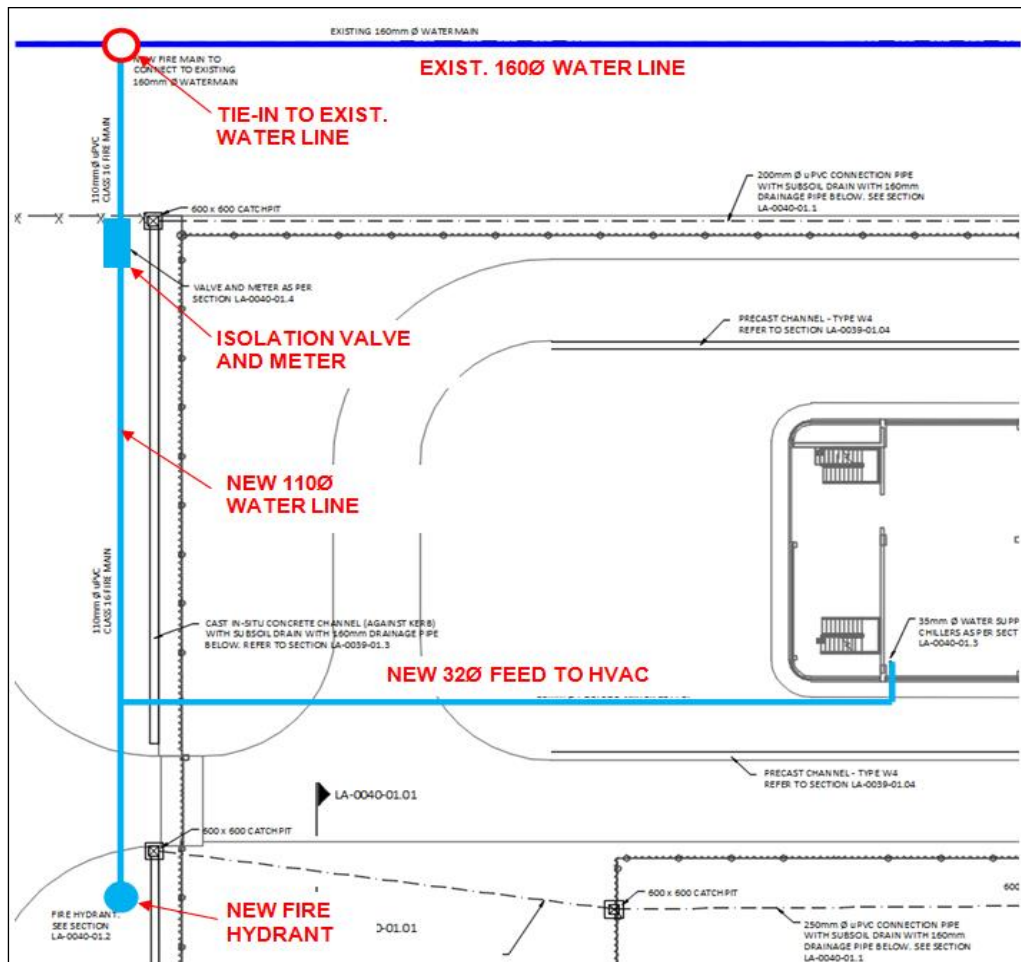

Figure 39: Fire Hydrant and HVAC Water Feed Connection
- Two new 110 mm diameter water mains, teeing off from an existing 160mm main near the Western boundary of the Substation platform, are to be provided along the Northern and Southern side of the site, to feed the fire hydrants on either side of the platform. Refer to Figure 39 below for details of the Southern fire hydrant connection.
- A 32 mm diameter connection will supply water for the HVAC chillers located inside Transnet's 11 kV Switch House, taken from the new 110 mm main on the Southern side of the site. Refer to Figure 39 below for details of 32 mm HVAC water feed.